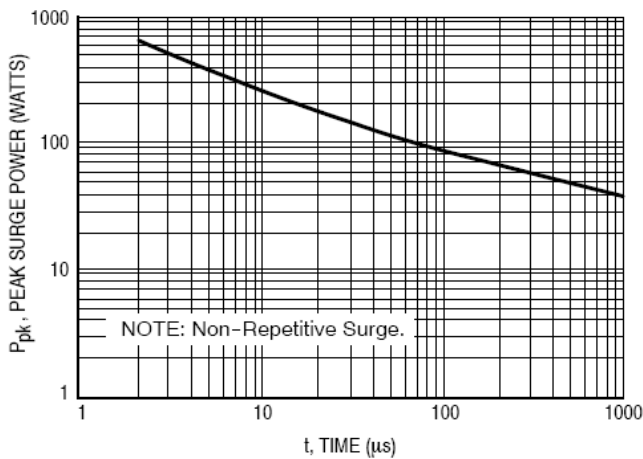
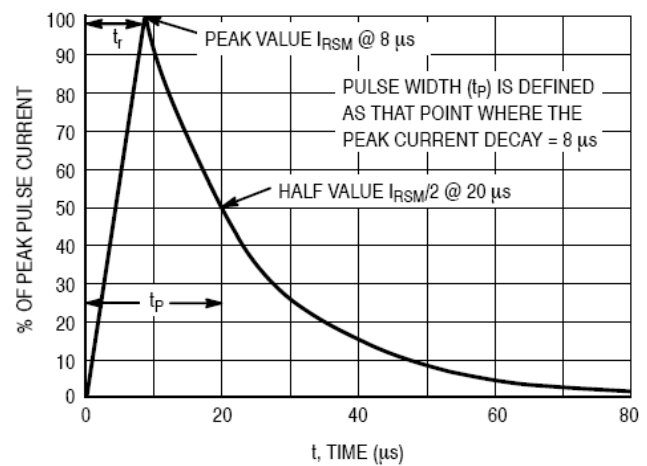

Figure 1. Pulse Width
Figure 2.  $8 \times 20 \mu\text{s}$  Pulse Waveform
1. Non-repetitive current per Figure 1. Derate per Figure 2.